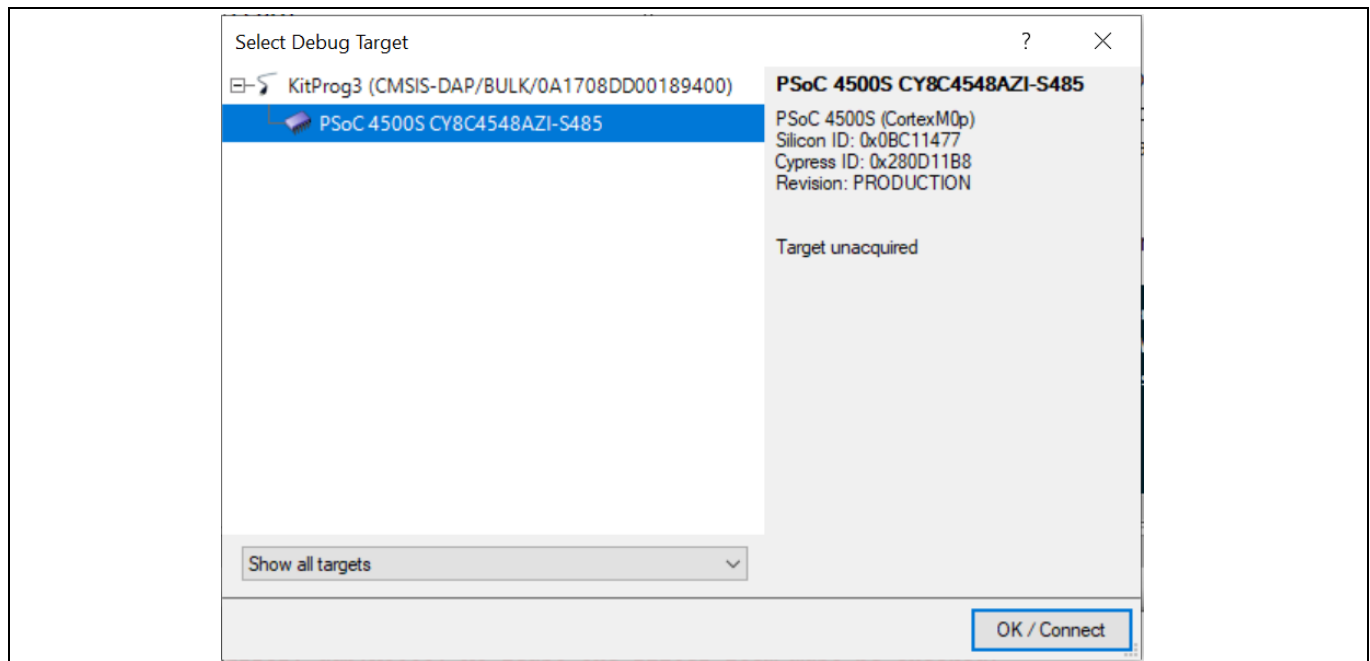

Figure 17 Connect Device from PSoC Creator and Program
- After the device is acquired, it is shown in a tree structure below the **KitProg3/<serial number>**. Click the **OK / Connect** button to exit the window and start programming, as shown in Figure 17.